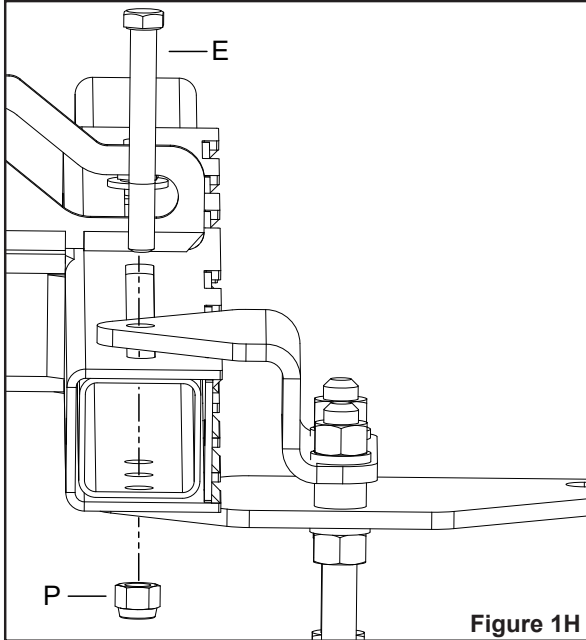

Figure 1H
STEP 1H: (SEE FIGURE 1H)
- On the right side you may need to adjust the slider tube (11) to allow a hole on the slide tube (11) to line up with the upper plates (18) forward hole.
- After it is aligned install a hex bolt (E) through the upper plate (18), slider tube (11), and the middle plate (19).
- Install hex nut (P); do not fully tighten.